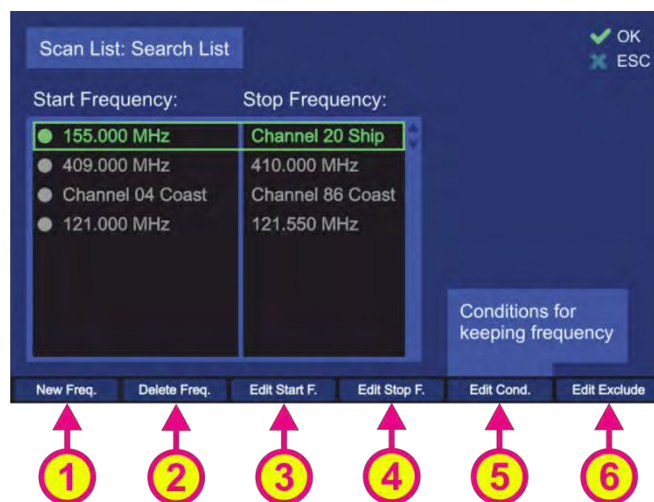

Figure 55. "Search List" settings
- Pressing the hotkey “Edit Scan” (s. Figure 53, position 6) will open the dialog for changing the settings of the “Search List” (s. Figure 55)
- Pressing the hotkey “New Freq.” (s. Figure 55, position 1) generates a new line in the “Search List” and opens the “Frequency Input Dialog” in order to input a valid start frequency. By the input of a new start frequency, the stop frequency is automatically set to the same value as the start frequency.
- Pressing the hotkey “Delete Freq.” (s. Figure 55, position 2) deletes the currently marked line from the “Search List”. After an entry has been deleted and the dialog left by pressing “OK”, the deleted frequency range will be scanned in the normal manner, when you restart the scan.
- Pressing the hotkey “Edit Start F.” (s. Figure 55, position 3) opens the “Frequency Input Dialog” (s. 7.1.2.2), which allows modifying the “Start” frequency of the currently marked frequency range.
- Pressing the hotkey “Edit Stop F.” (s. Figure 55, position 4) opens the “Frequency Input Dialog” (s. 7.1.2.2) which allows modifying the Stop Frequency of the currently marked frequency range.
- Pressing the hotkey “Edit Cond.” (s. Figure 55, position 5) opens the “Scan List Conditions” dialog